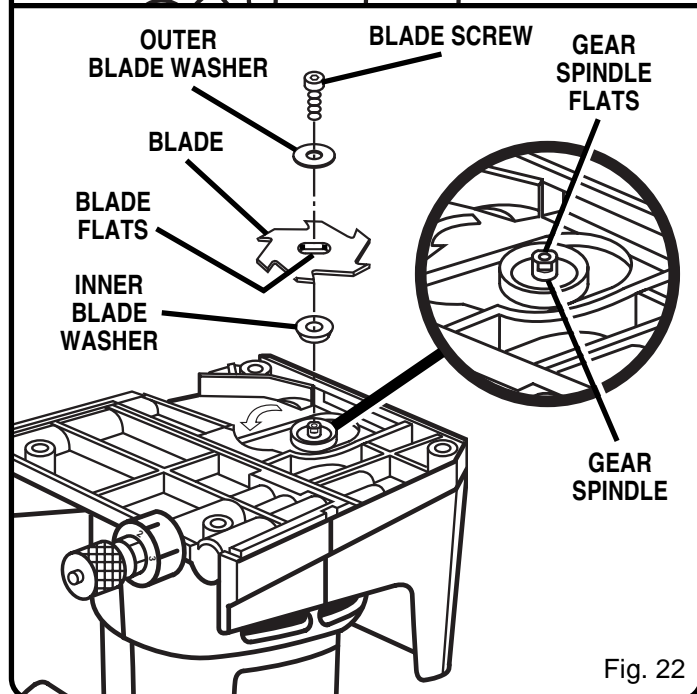

Fig. 22
NOTE: Turn blade screw counterclockwise to remove. See Figure 22.
- Place inner blade washer on gear spindle. See Figure 22.